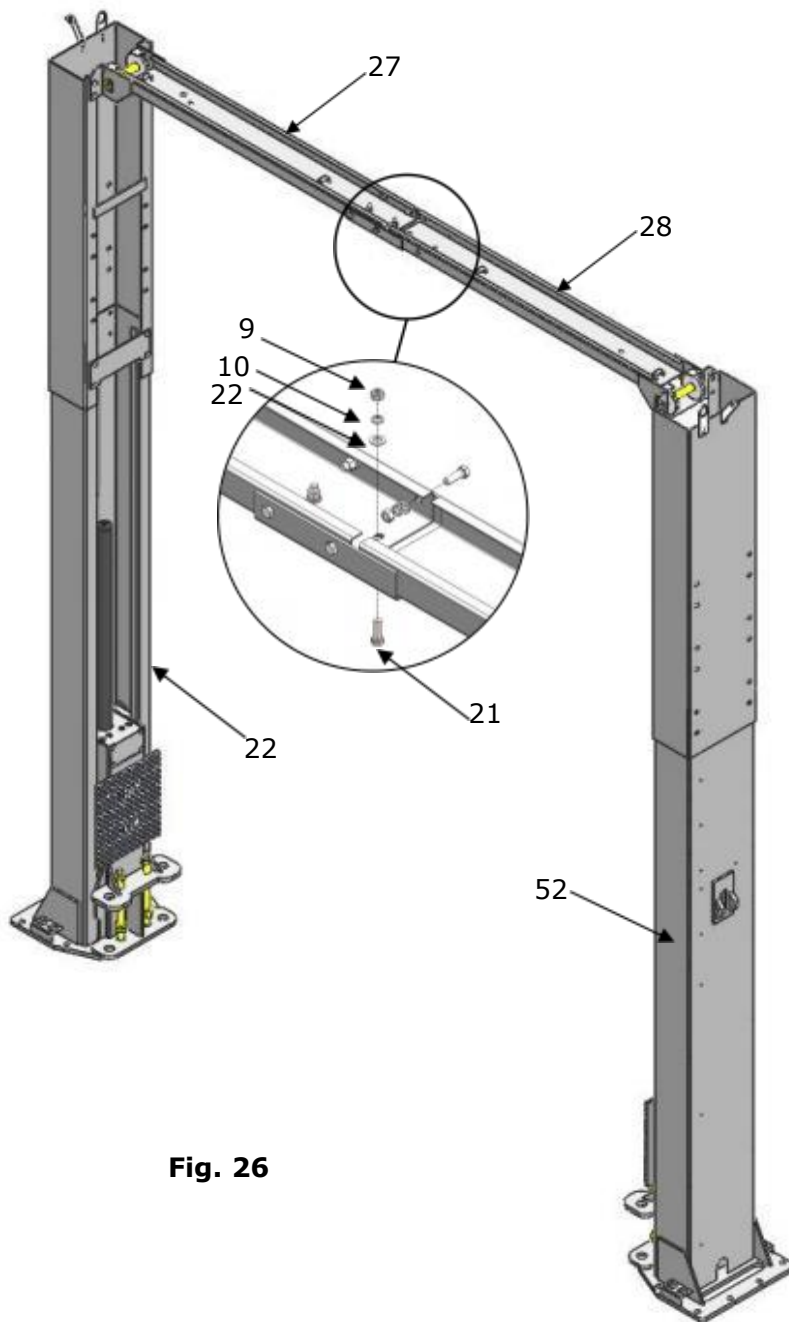

Fig. 26
2. Hang the hook of top beam(Right) on the other outer column, and then connect the left and right top beam with bolts. Tighten all the bolts. (See Fig. 26).